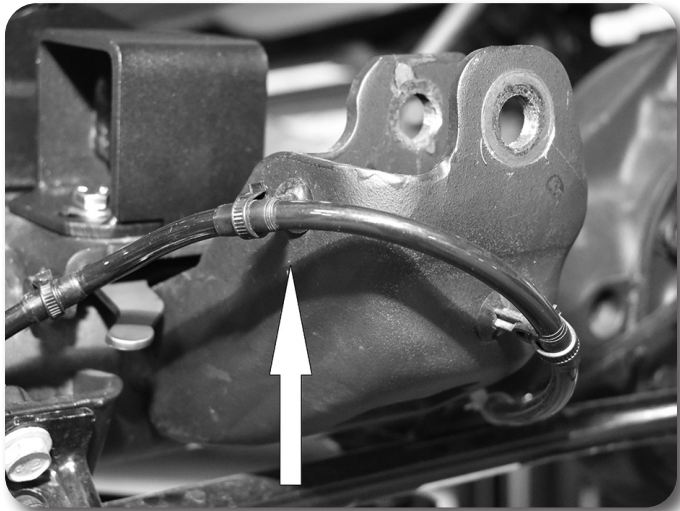

Figure 15
26. Refer to the OE track bar bracket, Remove the ABS clip as shown in Figure 15 and drill hole so that it fits a 3/8" bolt,